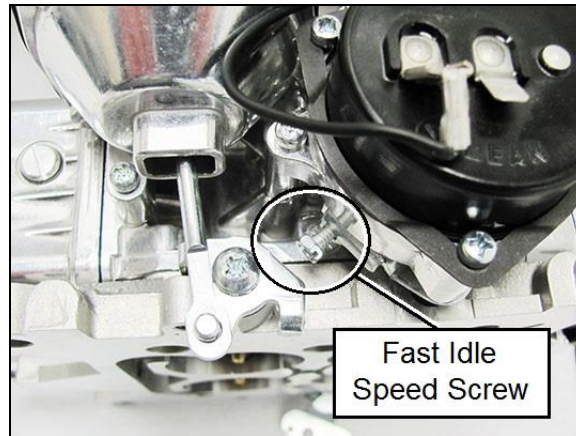

Figure 8
1. If the fast idle RPM is too low or too high for your preferences, SHUT DOWN THE ENGINE! Advance the throttle to wide-open, exposing the fast idle set screw below the choke housing (**Figure 8**).